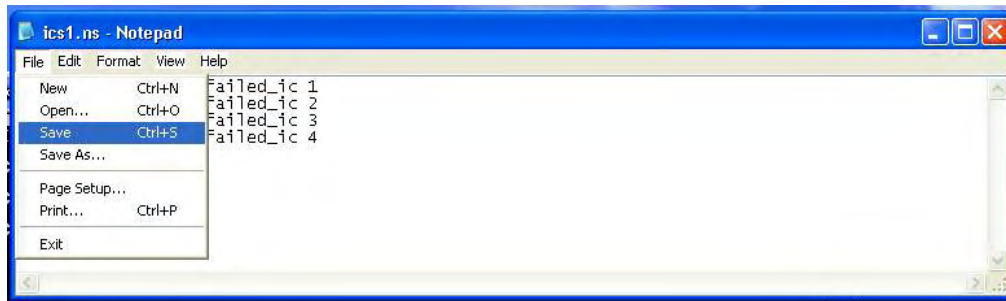

Figure 1-223. Save ics1.ns
7. Save the file (Figure 1-223).